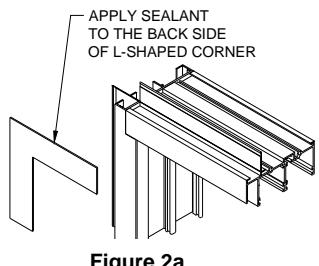

Figure 2a
4. Non-porous, non-absorbent, inorganic shims are then required to be applied to the framed opening sill to support the window and maintain it in a straight and level condition and to prevent rotation. Apply sealant to the back side of the L-shaped aluminum corner pieces (if required) and attach to the exterior face of the nail-fin at the corners as shown in figure 2a. Apply a continuous $\frac{1}{2}$ " bead of sealant to the backside (interior) of the nail-on flange at the head and jambs only. Do not apply sealant on the backside of the nail-on flange at the sill. **IMPORTANT:** Apply a heavy bead of sealant to the interior side of the mounting flange (nail-fin) where the window frame jamb and sill join. Sealant must cover the entire joint (from the flange to the inside leg of the window) and extend $1\frac{1}{2}$ " up the jamb and along the sill. (See Fig. 2b).